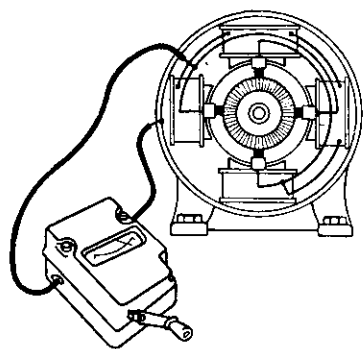

Figure 7
1. With the armature and field windings all connected together (Figure 7);